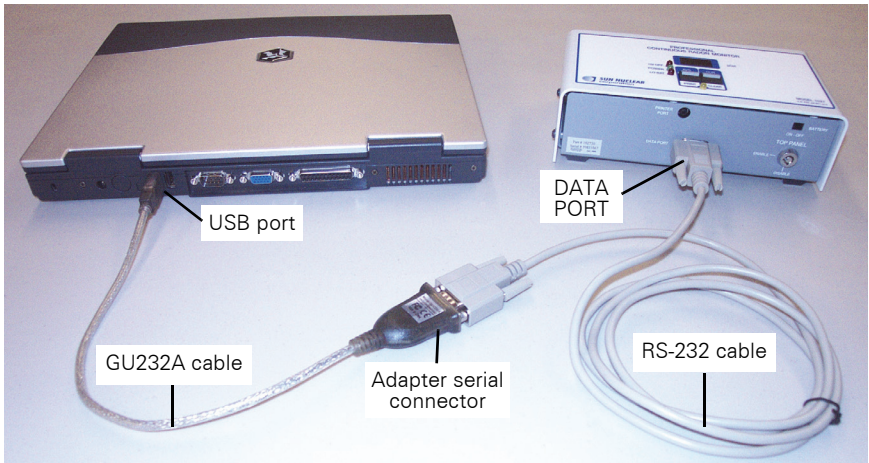

Figure 2-7. Connecting Model 1027 with USB to Serial Adapter
- 1** Connect RS-232 cable from Model 1027 DATA PORT to serial connector on USB to Serial Adapter (Figure 2-7).